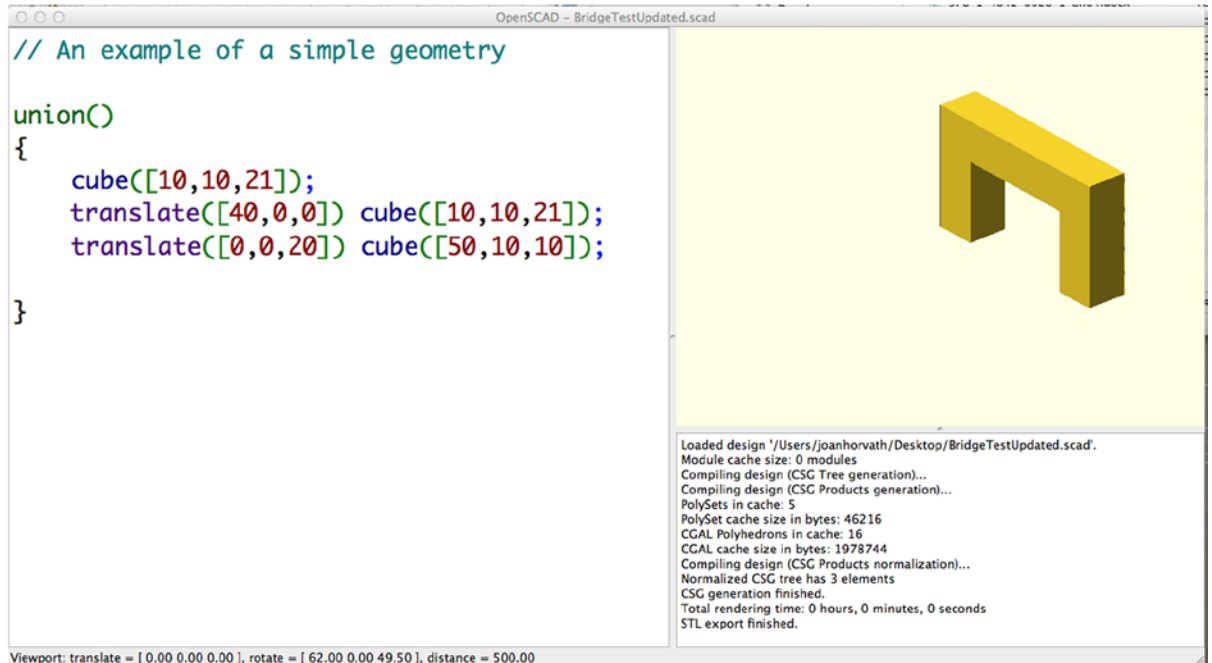

Figure 4-3. OpenSCAD simple demonstration
The program has built-in functions for most common shapes, although the names can be a little misleading. For example, all the rectangular solids are called “cubes.” Figure 4-3 shows a simple file with three “cubes” assembled into a simple bridge by moving (“translating”) the top and one side of the bridge away from the zero point.
- Pick an example from the Example submenu (or type in the little example shown in Figure 4-3—the three lines shown are all you need).